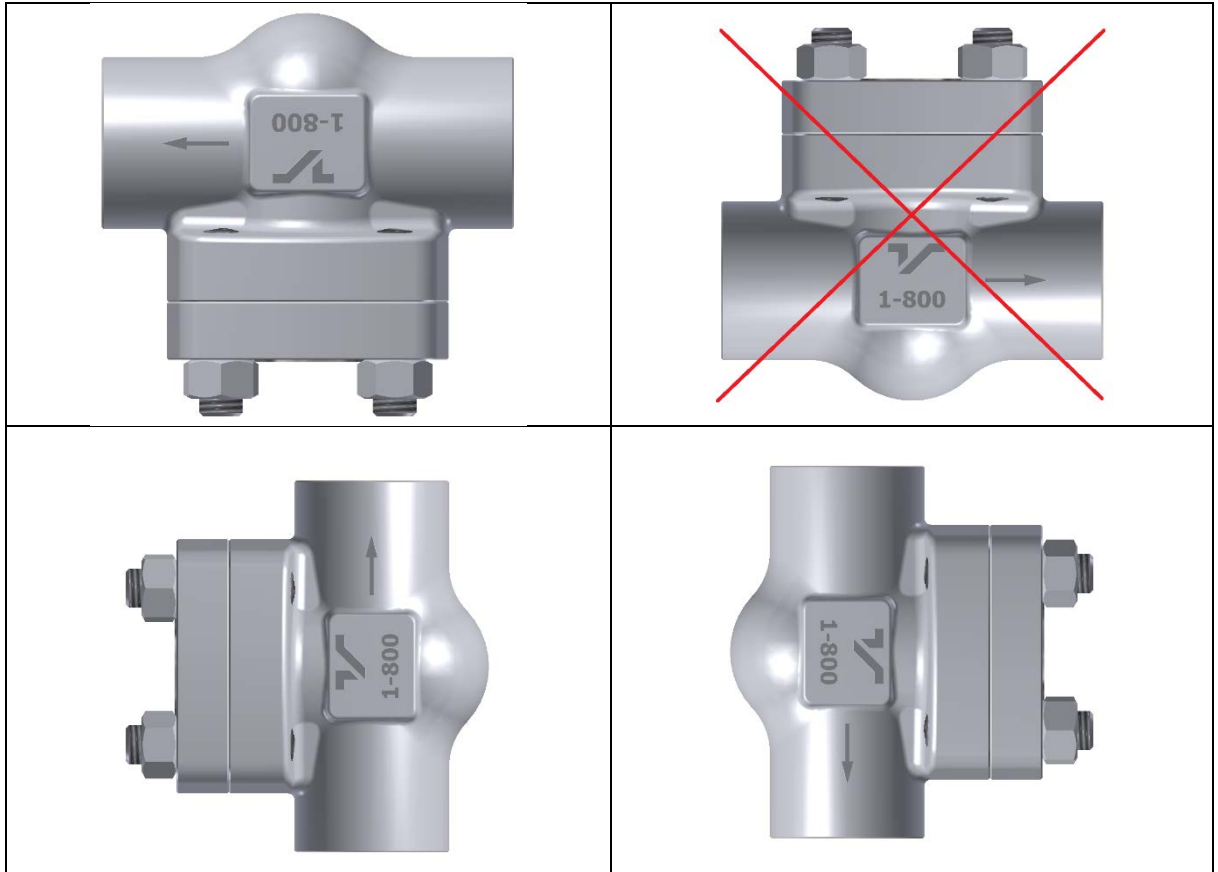

Fig. 2 Recommended mounting position
- Mounting is allowed in any position, but it is recommended that the cover is positioned down Fig. 2, for easier cleaning and preventing the retention of impurities in the central part body. You must pay attention on direction of flow.